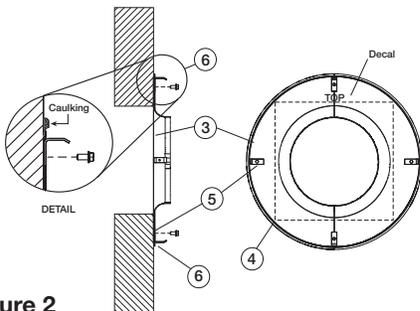

Figure 2
2. Locate the mounting plate (3) at the desired position and check to avoid unit clearance problems. Cut the wall opening (4) as shown based upon dimensions obtained from the Dimensional Data section found on page 2. Locate top of mounting plate (decal) and attach to the wall construction. The fasteners must pass through the holes provided in the mounting angle clips (5) on the mounting plate (3). For uneven surfaces, shims may be required. Sealant or caulking should be applied in the groove (6) formed by the mounting plate and the wall to prevent moisture leakage into the building. *Reference Figure 2.*